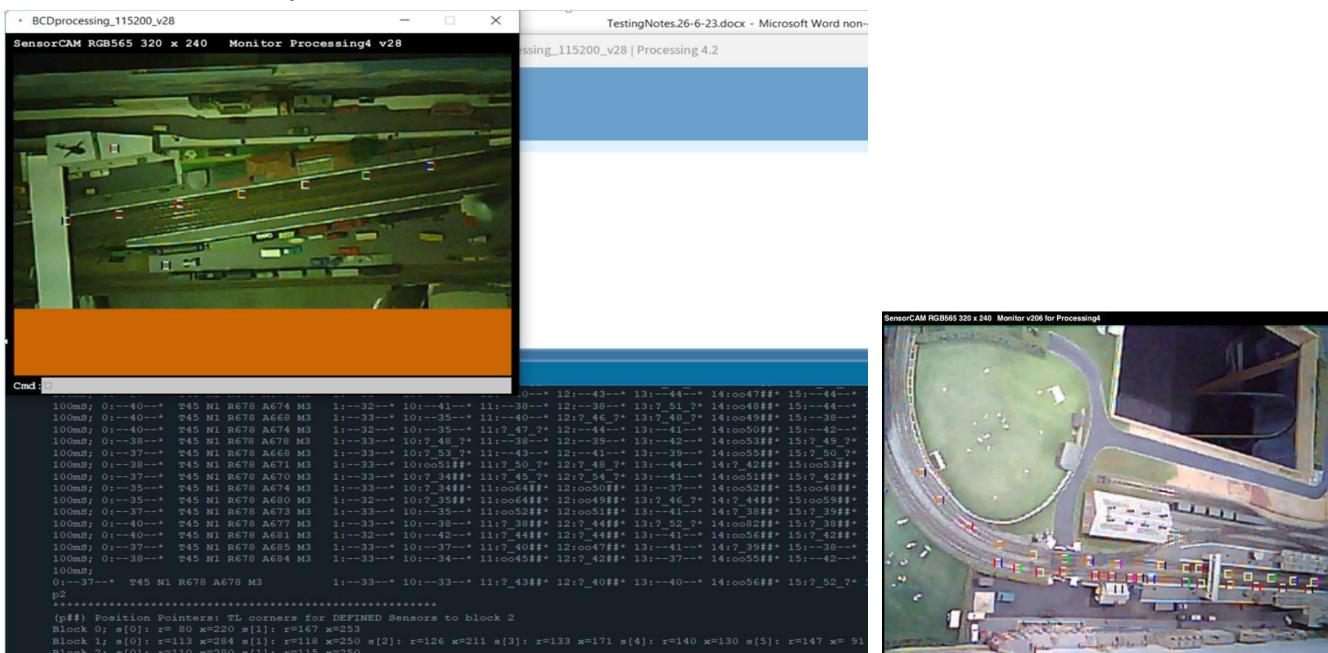

Figure 5 Processing 4 Console and image window
With regards lighting, fluorescent or LED lighting normally flickers at twice mains frequency so it pulses at 100 or 120Hz. This is normally tolerable, but it can be seen in a sensorCAM image on a uniformly white test panel as below (Figure 5). In 100mSec there could be up to 10 bands in one image. SensorCAM tries to synchronise with the mains frequency, but if it fails the faint bands will drift across the sensors and potentially trip them in the worst case scenario. Set the threshold high enough to avoid such trips. Figure 4 shows an example of bad 100Hz banding.
5.1 The first step is to decide a sensor distribution strategy & numbering system. A sensorCAM has 10 banks (0-9) of eight (0-7) individual sensors available (total 80). Each bank can be tested as a whole to see if ANY sensors tripped or NO sensors tripped. Also placing a string of sensors in a row, for example along a platform, can indicate train position with the binary bank value increasing as the train approaches a signal as it crosses sensors 0 through 7. (see **Figure 5** for examples) Sensors are generally referred to with a two digit bank/sensor designation (their bsNo.) e.g Sensor 68 and 69 are therefore invalid bs numbers, 97 is valid. Sensor S00 is reserved as a brightness reference sensor. Sensor S06 is also RESERVED for now. It is suggested that user's Sensors start with bank 1, i.e. S10 (vPin 8), S11 upwards, with related sensors in their own bank. They do not need to be sequential (**Follow the installation Guide for full details**). **With the recommended definitions set up, the use does not need to remember or refer to vPins for sensorCAM sensors.**
Test image with Fluorescent or LED lighting – note three faint dull stripes across white test panel in Figure 5 below. Strong banding is also evident in Figure 4. Horizontal stripe position varies frame-to-frame as not effectively synchronized with mains yet. (Figure 5 image was obtained using V, H & Y60 Processing4 commands)
The sensorCAM Processing 4 monitor accepts commands W, X, Y & Z which allow one to nominate a “strip” or subsection to image. e.g. Z80, X240, Y, will provide the last quarter image (columns 240-319) of the 240x320 pixels in 4 seconds. This method enables, for example, comparison of quarter images under different lighting conditions by using different X values. . Similarly W60, Y120, will produce a quarter image from row 120. Each part image is pasted over previous images. Each new image appears more quickly if only a subsection is specified this way. The **next** image can be flipped Vertically (y) and Horizontally(x) by using V &/or H *before* capture. The Figure 5 image used V, H, Y60. The values for V, H, W, X & Z are remembered for subsequent ‘Yrrr’ commands so need not be repeated. NOTE: **Do not flip** before creating new sensors as cursor coordinates don’t flip.